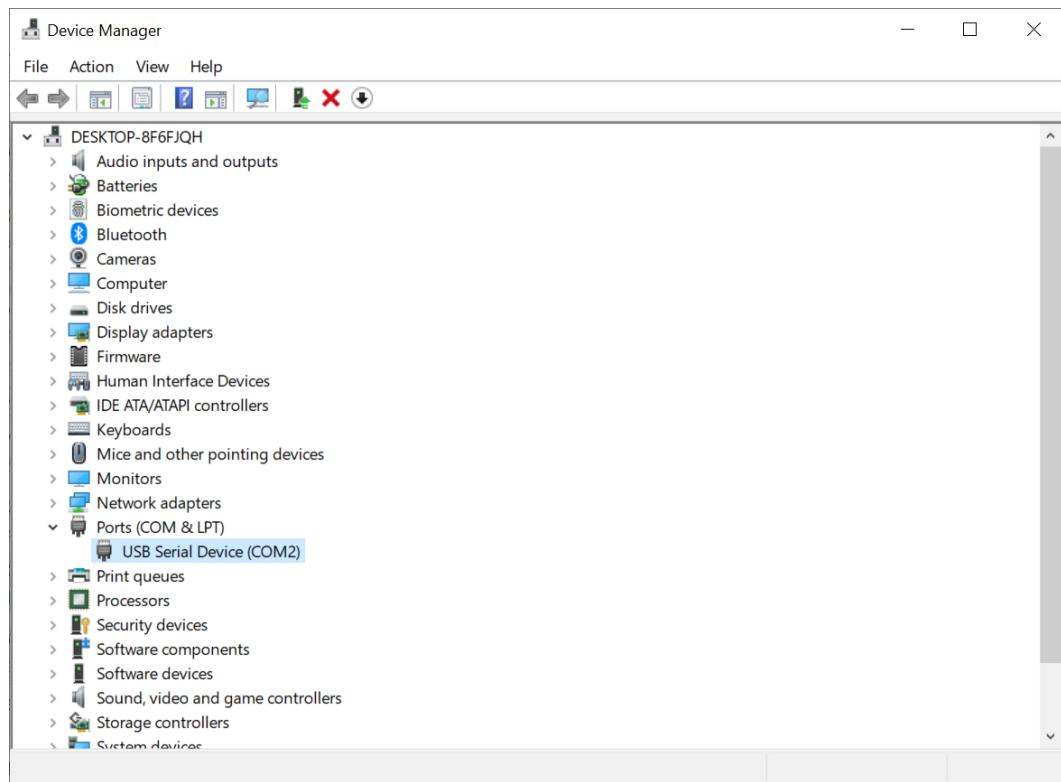

Figure 3.2: Windows device manager
7. Look for “Other devices” in the “Device Manager” list, expand and locate “Unknown device”. This may be similar to what is shown in Fig. 3.1. In case, you don’t see “Unknown device,” look for “Ports (COM & LPT)” and expand it to locate “USB Serial Device (COM2)”. This may be similar to what is shown in Fig. 3.2.